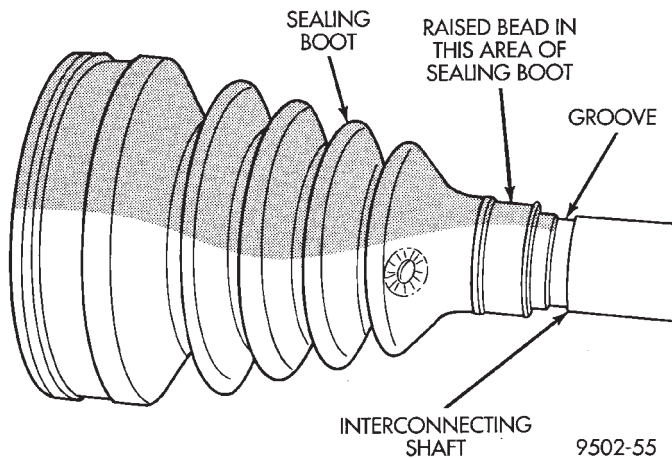

Fig. 44 Sealing Boot Installation on Interconnecting Shaft
(1) Slide new sealing boot to interconnecting shaft retaining clamp onto interconnecting shaft. Slide the outer C/V joint assembly sealing boot onto the interconnecting shaft (Fig. 44). **Seal boot MUST be positioned on interconnecting shaft so the raised bead on the inside of the seal boot is in groove on interconnecting shaft.**